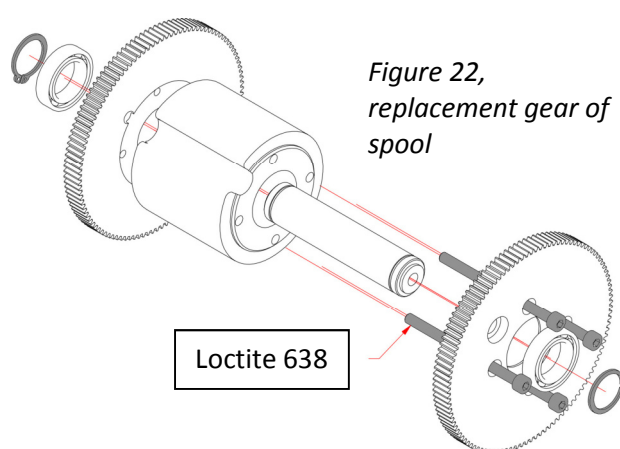

Figure 22,
16. Make sure that after replacing the circlips (*Figure 22*) and Loctite placed on the 4 bolts